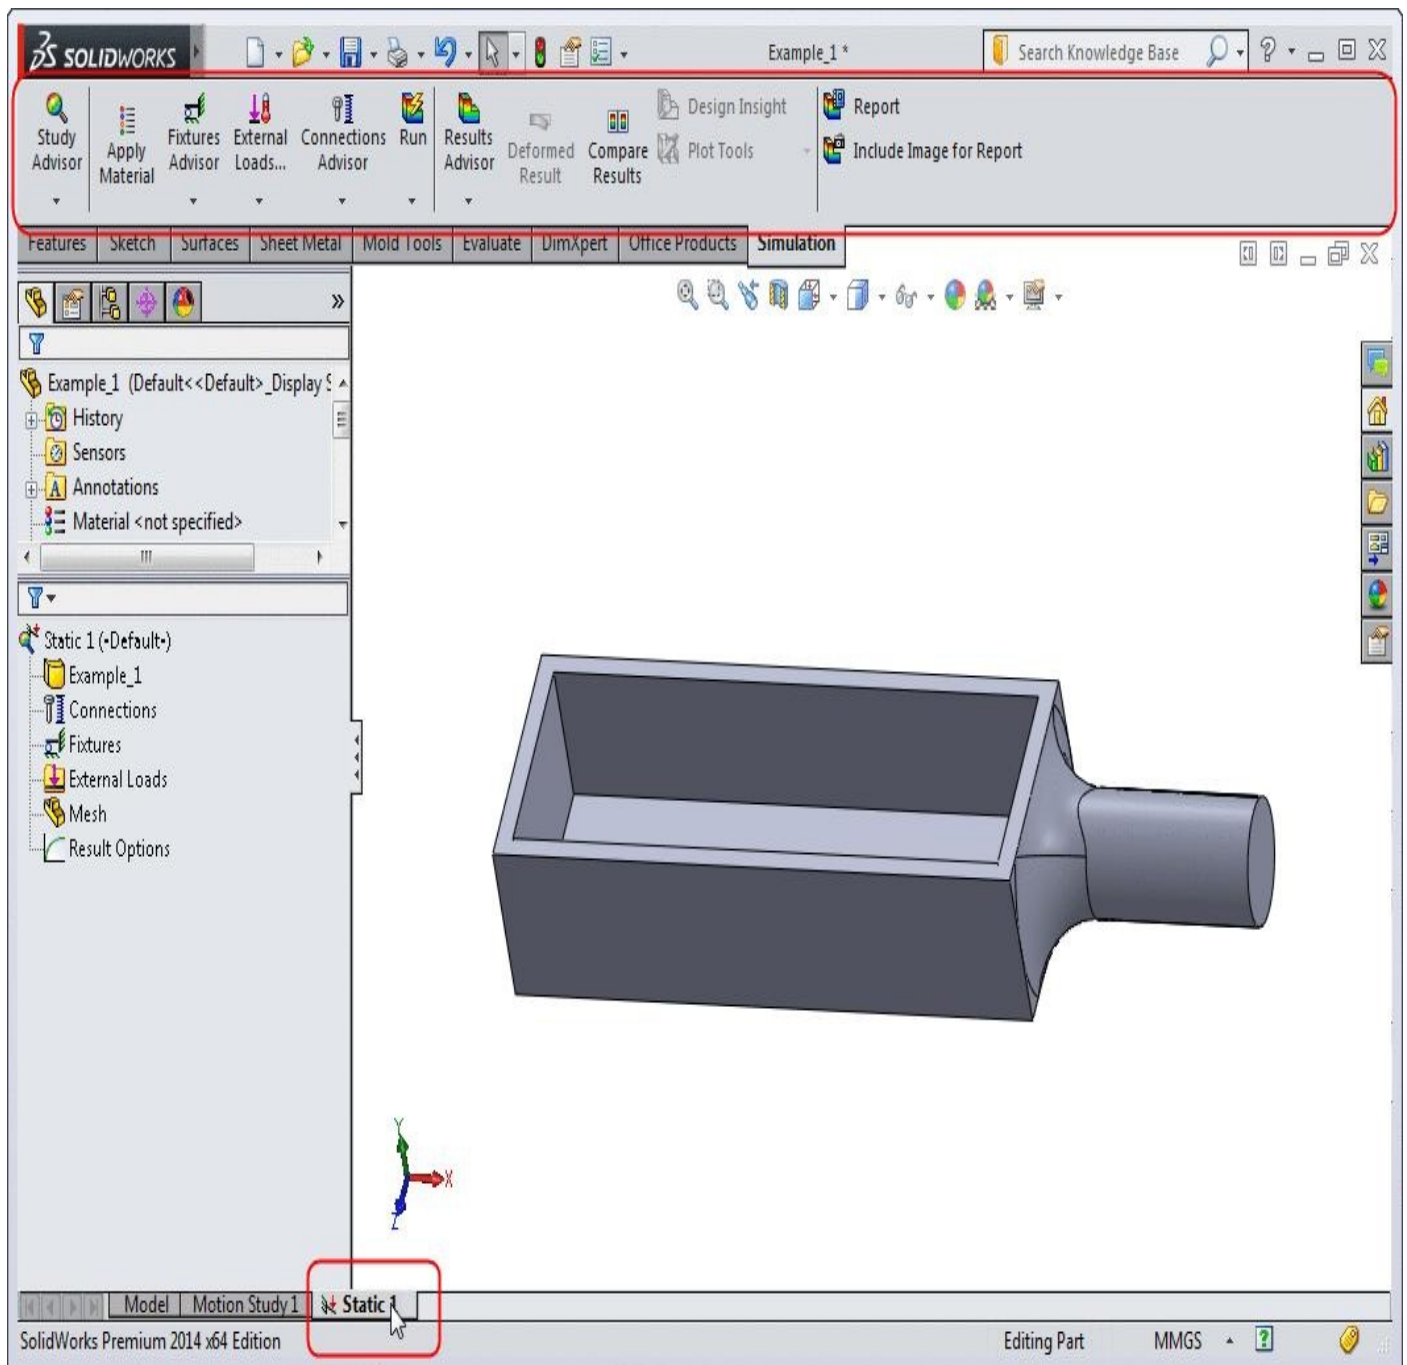

Figure-2. Analysis environment
- Click on the **OK** button from the **PropertyManager**. **Static 1** tab will be added at the bottom of the modeling area in the **StudyBar**. Also the tools related to the analysis will be displayed in the **Ribbon**; refer to Figure-2.